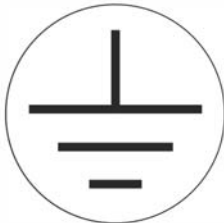

Figure 2.19 Protective conductor symbol
5. Connect the three grid wires (L1, L2, L3) and the grounding conductor (PE) to the connecting terminal plate with the respective markings. The grounding conductor is marked with the symbol shown in figure 2.19.